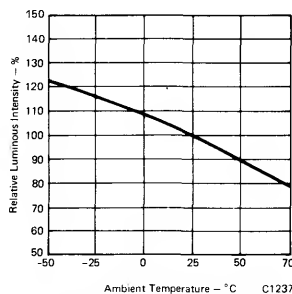

Fig. 3. Relative Luminous Intensity vs. Ambient Temperature
2. The curve in Figure 3 is normalized to the brightness of 25°C to indicate the relative luminous intensity over the operating temperature range.